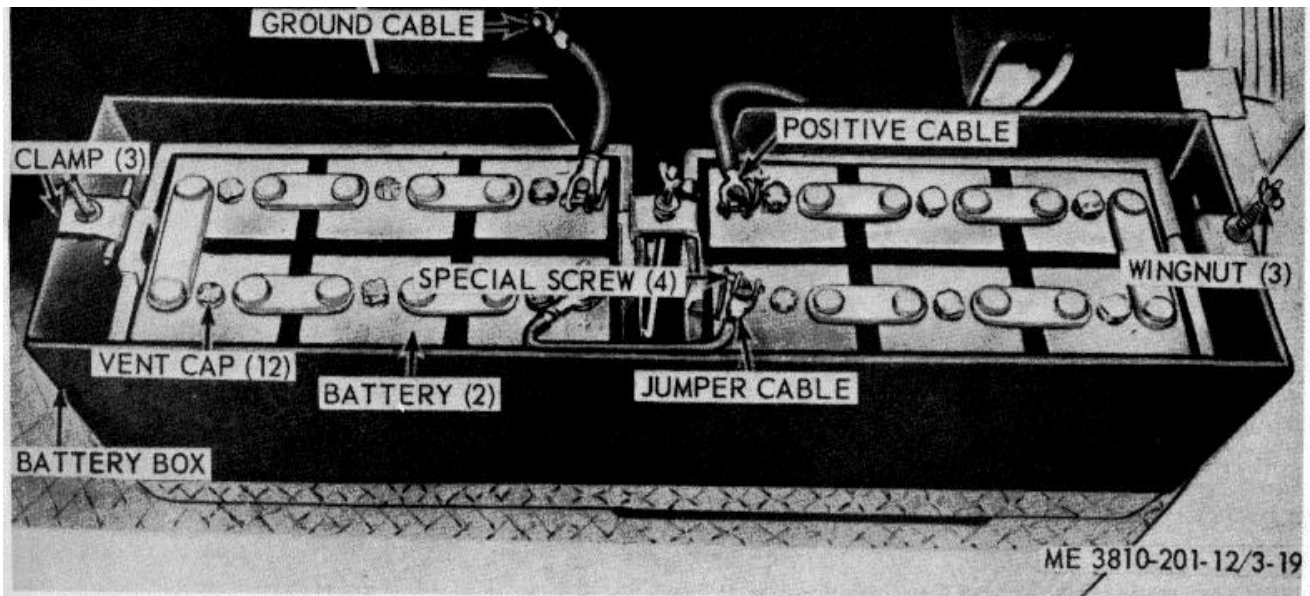

Figure 3-19. Battery service (non-winterized models).
(1) Remove three wing nuts (fig. 3-19), remove cover then place wing nuts back on screws for safe keeping.
(2) Remove 12 filler caps; check level of electrolyte, add electrolyte or distilled water, if necessary, to bring level to 3/8 inch above plates.
(3) Clean vent holes in caps, then install all caps on batteries.
(4) Check that battery cable and ground cable connections are tight on terminals and free of corrosion.